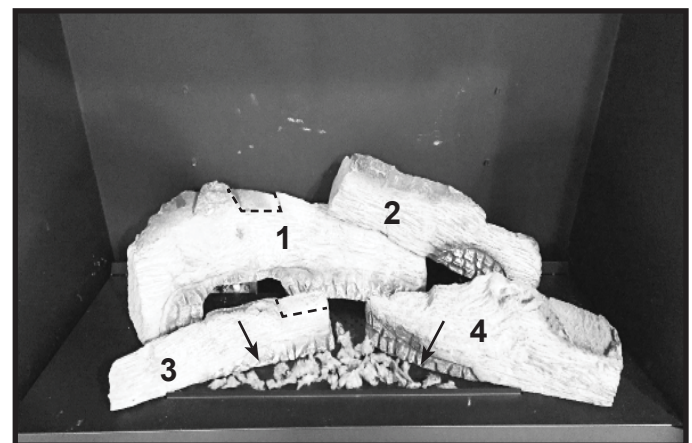

Figure 8.
6. Locate the glowing embers and install them as shown in Figure 1. Do not install any glowing embers on the back row of burner ports. Glowing Embers can be placed directly over burner ports; however, for optimal front flame height, place glowing embers around the burner port clusters indicated by the “arrows” shown in Figure 8.
9. The Middle Left Cross Log (6) will rest on the voids and the base pan lip as shown in figure 8. Install log by placing it on top of the log voids. The tip of the log will contact front lip of base pan. See Figure 11.